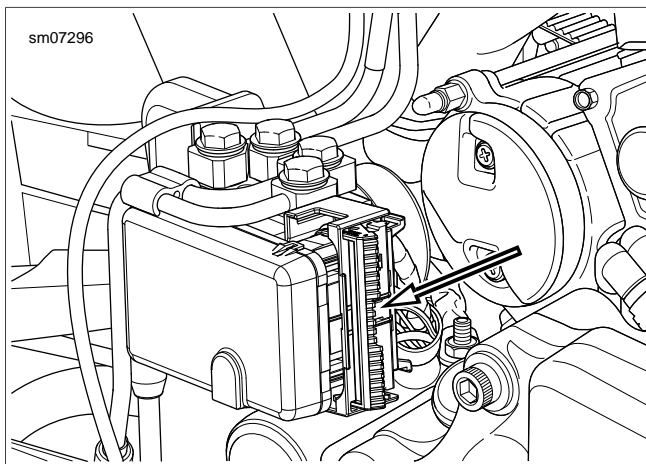

Figure A-73. Tyco MCP Connector Release Bar
**Separate:** See Figure A-73. Press and hold the lock tab. Pulling on both ends of the lever, open the lever.